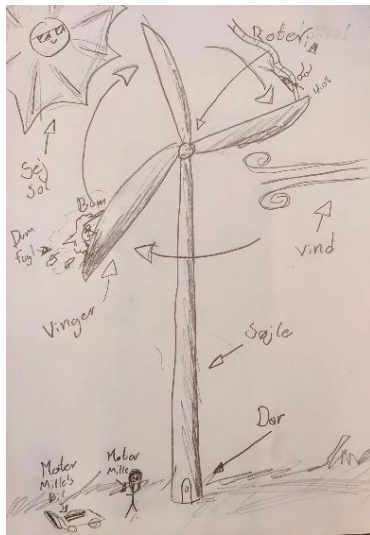

Figure 3: Example of student drawing of a modern wind turbine.
- In the classroom, each student makes a drawing of a modern wind turbine with all the components they know (see fig. 3).